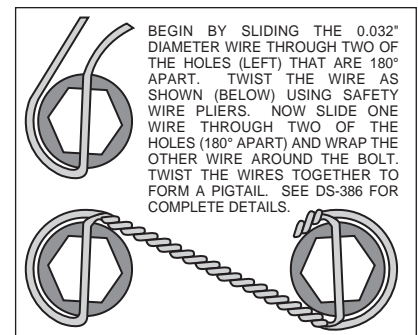
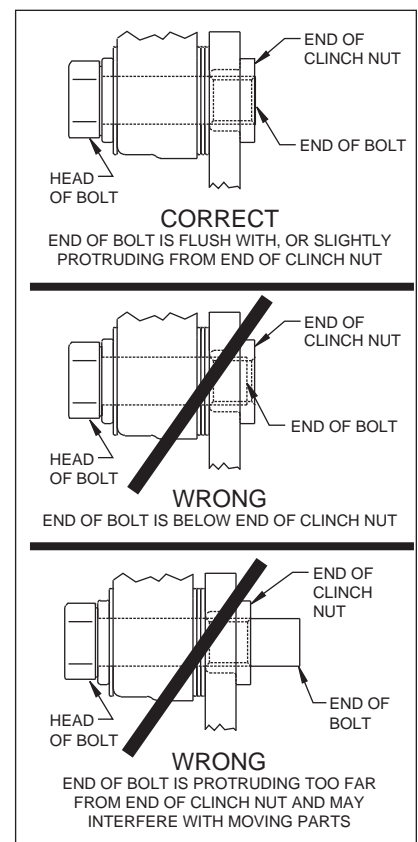

Figure 3. Safety Wire Diagram
Figure 4. Clinch Nut Engagement Diagram
Assembly Instructions (numbers in parenthesis refer to the part list/diagram on the preceding page): **CAUTION:** All mounting bolts must fully engage insert nuts. Be sure to check that all bolts are either flush or protruding through flanged side of insert nut after shimming, Figure 4.
- The rotor (3) has two sides. A flat side and an inset side. Bolt hat (2) to flat side of rotor (3) using bolts (5). Using an alternating sequence, apply red *Loctite*® 271 to the threads and torque bolts (5) to 25 ft-lb. Safety wired bolts using standard 0.032 inch diameter stainless steel safety wire as shown in Figure 3. Please refer to Wilwood's data sheet DS-386 (available at www.wilwood.com/Pdf/DataSheets/ds386.pdf) for complete safety wire installation instructions.
- Align the correct hole pattern in the hat (2) with the stud pattern on the axle flange. **NOTE:** *Some OEM and after market axles come with stud sizes larger than 0.50" diameter.* Verify stud size and have a qualified machine shop drill the hats to the correct size. Slide the hat/rotor assembly (2 and 3) over the wheel studs and against the axle flange face.
- NOTE:** *Please reference the caution statement at the beginning of the assembly instructions.* Mount the caliper (6) over the rotor (3) and onto the caliper mounting bracket (1) using washers (7) and mounting bolts (8). View the rotor through the top opening of the caliper. The rotor should be aligned in the center of the caliper. If not, adjust the caliper by using 0.032 inch shims (9) by placing them between the caliper mounting bracket (1) and the caliper (6). Add as many shim washers (9) as necessary to achieve the correct alignment. **NOTE:** *The end of the bolt must be flush with or slightly protruding from the head of the clinch nut.* See Figure 4. Place spare shims (9) between washer and caliper mounting ear to achieve the proper mounting fastener configuration. Always use the same amount of shims on both the top and bottom caliper mounting bolts (8). Apply red *Loctite*® 271 to the mounting bolt threads (8), torque to 40 ft-lb. Caliper mount bolts may be safety wired for additional security.
- Position the Wilwood disc brake pads (10) into the caliper (6) and fasten with cotter pin (4). Steel backing plate side of brake pad should face the caliper pistons.